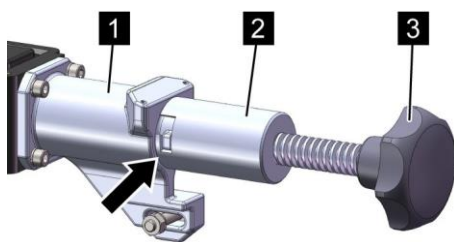
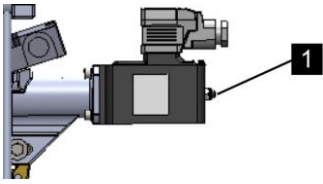

Fig. 154: Clamping device
Fig. 155: Locking bolts
7. ➤ Fit the clamping device (Fig. 154/2) onto the holder of the EM release device (Fig. 154/1) and fix it in place (Fig. 154/arrow).
8. ➤ By turning the adjustment wheel, push the release pin (Fig. 154/3) of the clamping device far enough into the housing that the locking bolt (Fig. 155/1) can be pushed in the counter direction and lock the release pin.